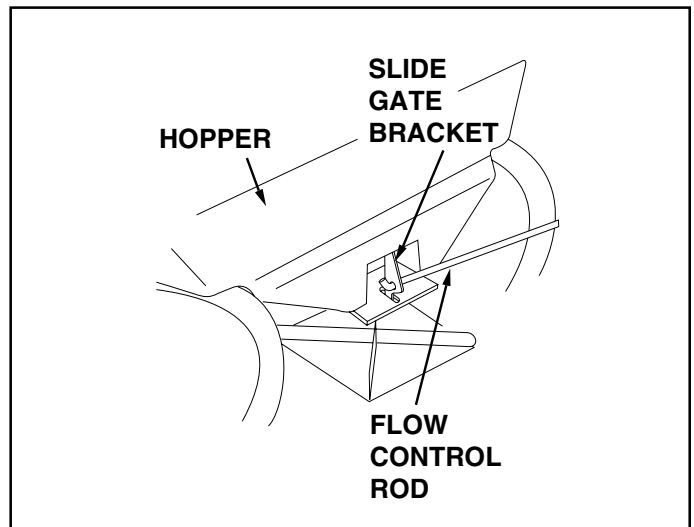

FIGURE 10
19. Hook the free end of the flow control rod through the hole in the slide gate bracket located near the bottom of the hopper. See figure 10.